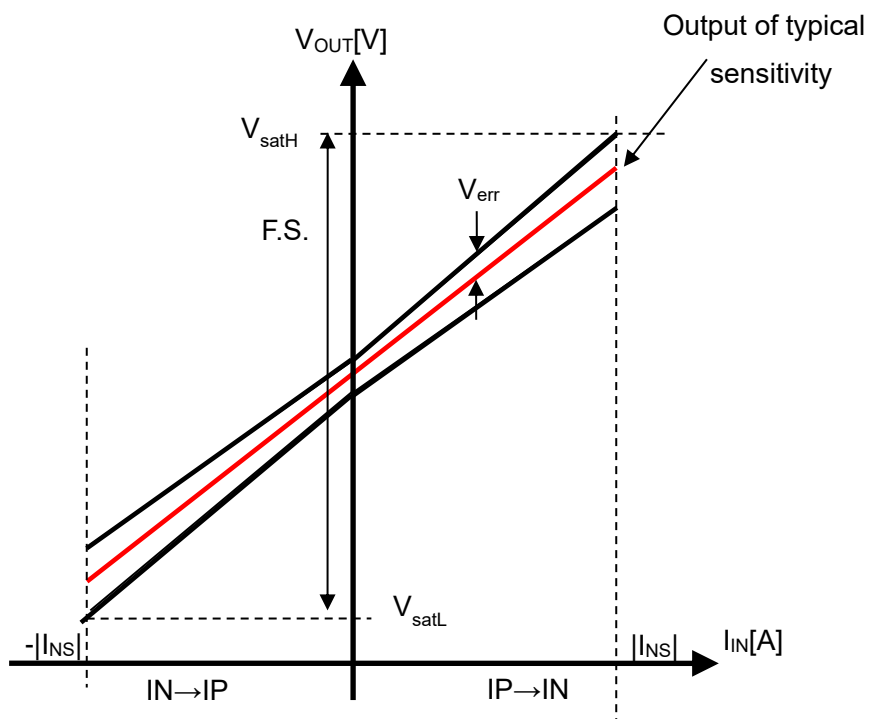

Figure 4. Total Accuracy of CZ-3A04
10.2. Total Accuracy E_{total} [%F.S.] is defined as below (See Figure 4.)